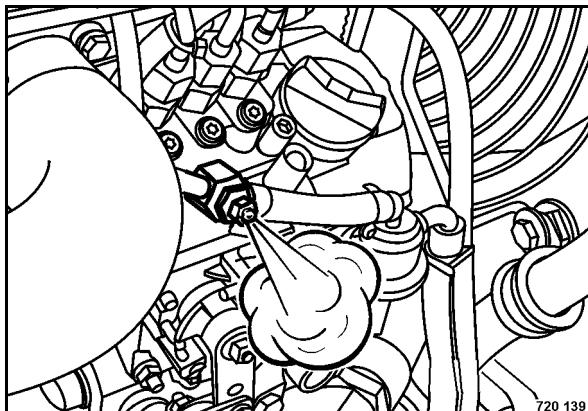

Fig. 116
- Open the bleeding screw on the injection pump (Fig. 116) and crank the engine with the starter, until fuel runs out without air bubbles.